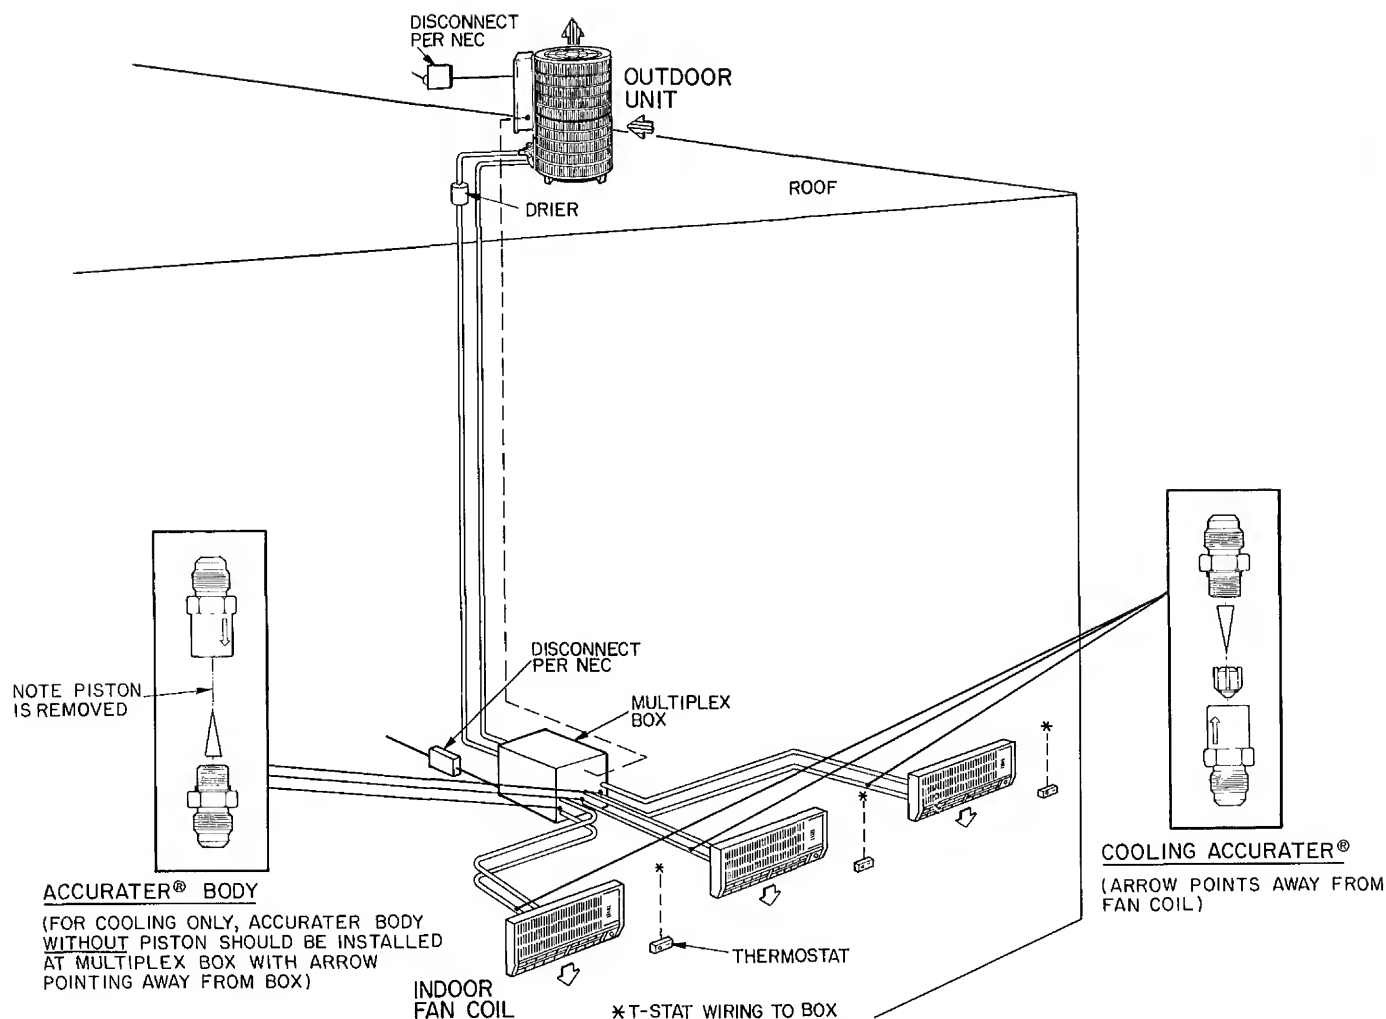

Fig. 4 — Typical Installation
Decide on proper locations for outdoor unit, indoor fan coils and Multiplex control box. Be sure to locate outdoor unit so that connection fittings are lined up to where Multiplex control box is to be located. Keep in mind that Multiplex control box must be conveniently located for connection to indoor fan coils. See Fig. 4, Typical Installation.
Step 4 — Connect Refrigerant Piping — (Refer to Fig. 4.)